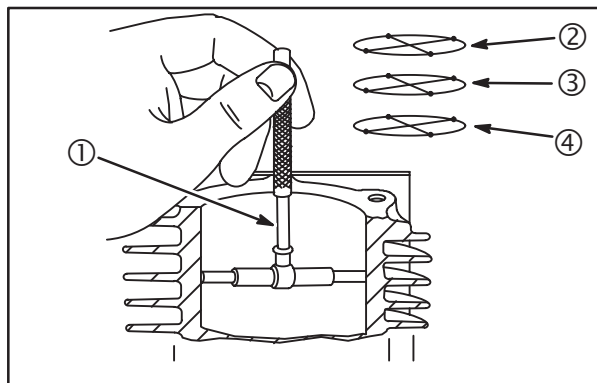

**Fig. 1**
2. Check cylinder head mounting surface for distortion with a straight edge, **Fig. 1**.